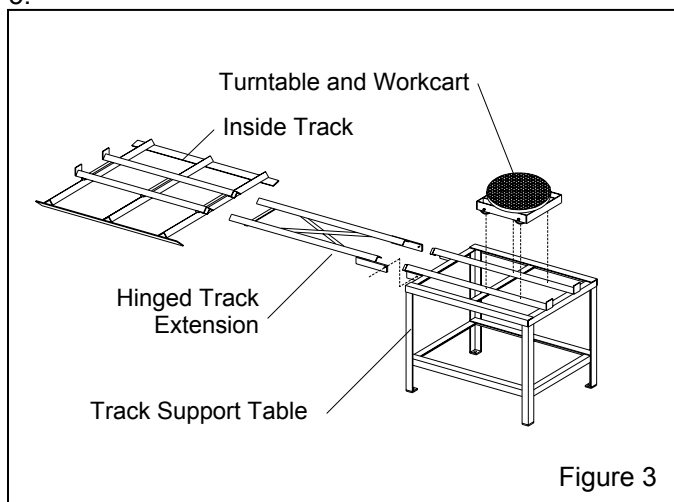

Figure 3
**3.4.1** The components of the Turntable and track assembly are shown in Figure 3. The assembly consists of: